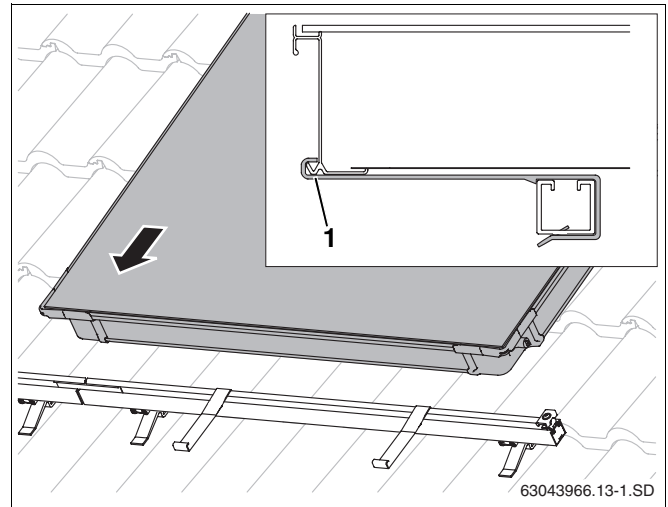

Fig. 42 Laying the first collector on the profile rails
- Place the first collector onto the profile rails and allow it to slide into the anti-slip protectors (Fig. 42).
The lower collector edge must lie in the opening of the anti-slip protector (Fig. 42, **Item 1**).